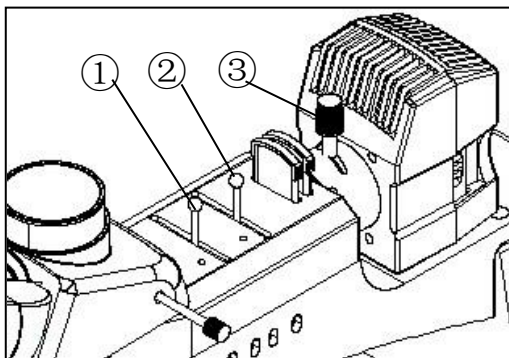

Fig.22
3.2.3 Adjusting the Illumination Set (Fig.22)